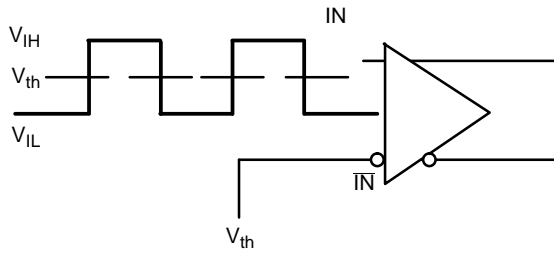

Figure 8. Differential Input Driven Single-Ended
## DIFFERENTIAL CLOCK INPUTS DRIVEN SINGLE-ENDED (Figures 8 & 10) (Note 13)
**DIFFERENTIAL CLOCK INPUTS DRIVEN SINGLE-ENDED** (Figures 8 & 10) (Note 19)